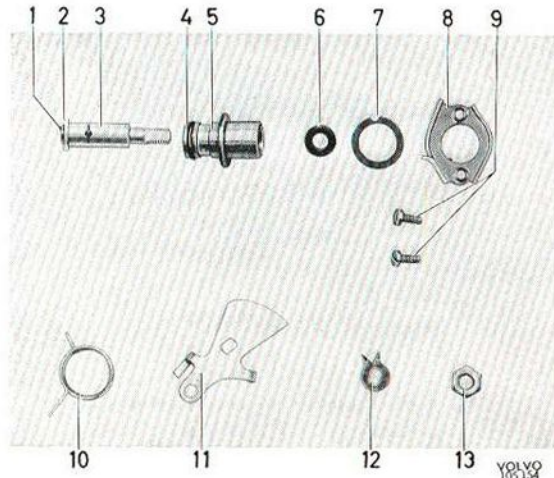

Fig. 2-137. Cold start device, disassembled
4. Pull out the cold start device from the carburetor housing. Press the spindle out of the cold start device housing. Remove the gasket (7, Fig. 2-137), the rubber ring (4) and the seal (6). Clean all parts. Blow clean all channels with an air line.